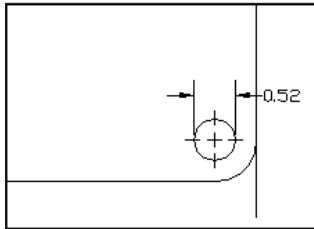

Figure 15-17: A narrow dimension using the Both text and arrows option.
- ♦ **Both text and arrows:** Keeps the text and arrows together — between the extension lines if there is enough room, outside the extension lines if not. Figure 15-17 shows a dimension using this option.